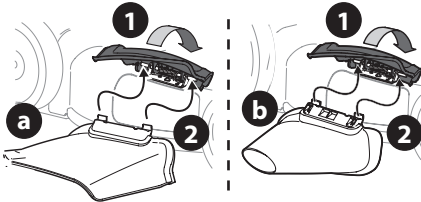

Figure 18
1. Lift the mulch plug (Figure 18).